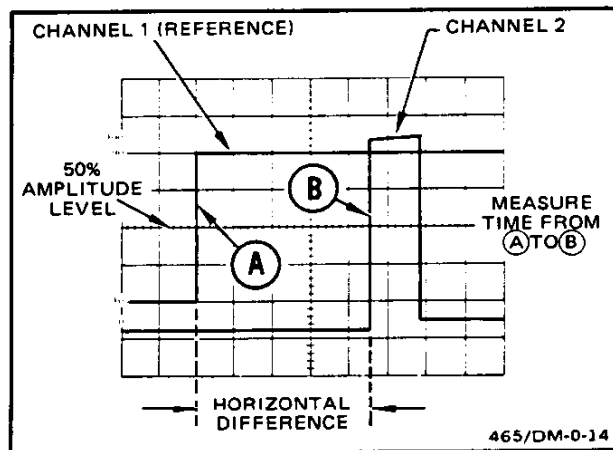

Figure 17. Time difference between two time-related pulses.
9. Set the A SEC/DIV switch to a sweep speed which provides three or more divisions of horizontal separation between the reference points on the two displays. Center each of the displays vertically (see Figure 17).